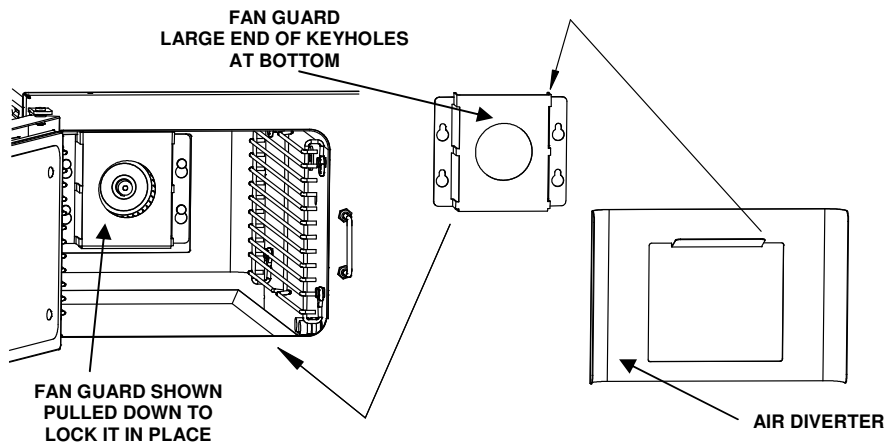

Figure 3-5 Fan Guard Shown Installed (SteamChef 3.1 Shown)
- See Figure 3-5
- 3. Pull it down so that the narrow ends of the slots are pulled tight over the mounts. See Figure 3-5.